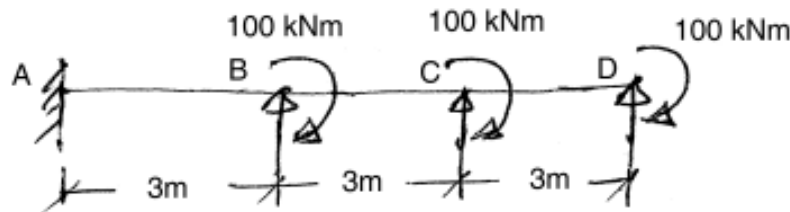

Figure 3
5. Analyse the continuous beam as shown in figure 3 by stiffness method. Draw BMD. 12